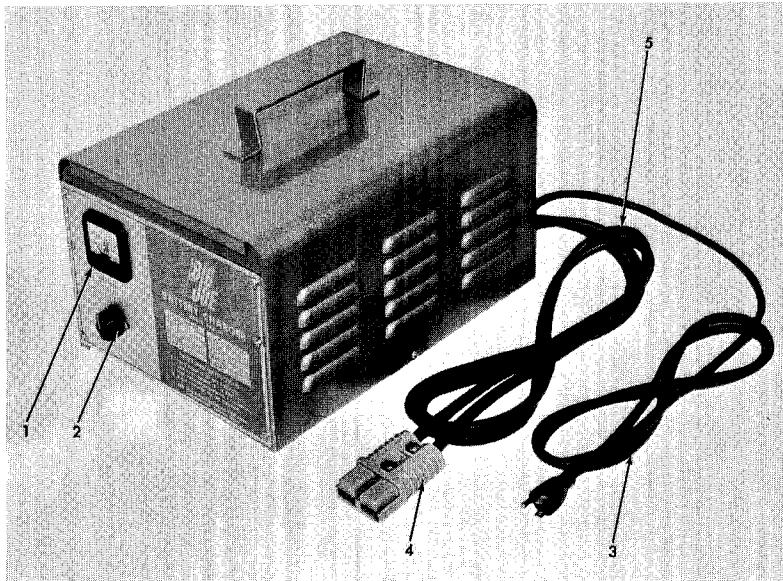

Figure 2-1. Controls and Indicators
1-13. The charging current flow is indicated on the ammeter (1, figure 2-1) during the charging cycle. Since the charging current is inversely proportional to the charge held by the battery, the ammeter actually indicates the current condition of the battery charge. The BAJ-50 will accomplish complete charging of a 12-volt, 360-ampere-hour (6 hour rate) industrial battery in approximately nine hours.
2-4. For general safety, do not place the BAJ-50 on the floor. When the equipment is in use, make sure that the ac line cord (3, figure 2-1) and dc output cable (5, figure 2-1) do not obstruct traffic.
c. Turn the BAJ-50 timer ON-OFF switch (2, figure 2-1) to OFF, and check that the ac line cord is not connected to power.
d. Connect the battery dc connector to the BAJ-50 dc connector (4, figure 2-1) being careful to match polarity.
e. Connect the ac line cord (3, figure 2-1) into a properly grounded 115-vac, 60-cycle, single phase power source.
g. Turn the timer ON-OFF switch (2, figure 2-1) to the ON position.